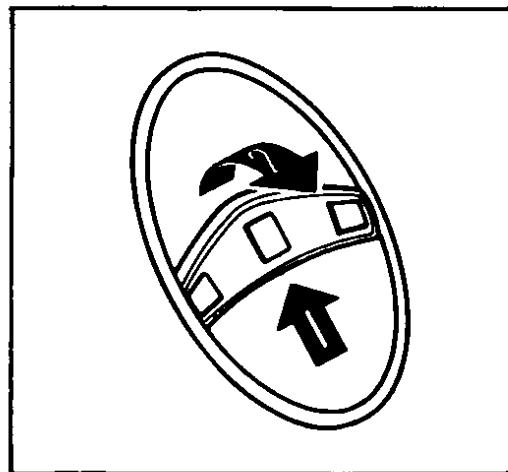

Fig 92 Removing horn pad
- Remove the horn pad. Two-spoke type: slide the horn pad upward and then pull out, Fig 92. Three-spoke type: simply pull out.